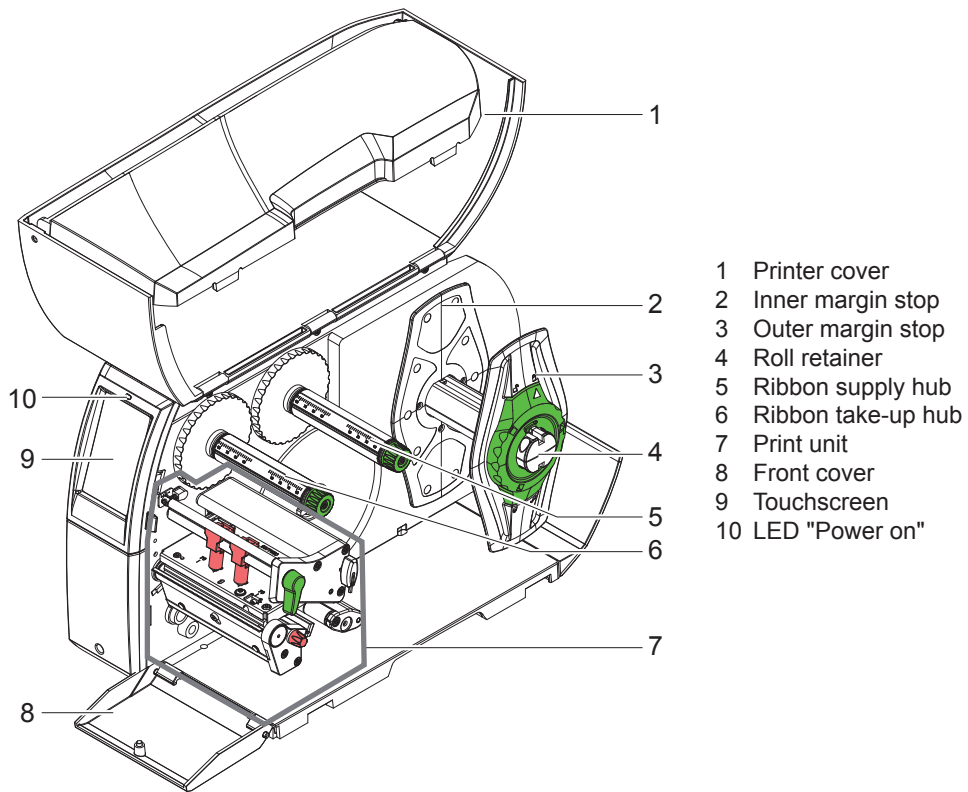

Fig. 1 Overview
The printer performs a system check, and displays the system status *Ready* on the screen (9) in „Fig. 1 Overview“.